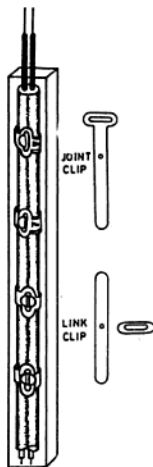

Fig. 10.5 C.T.S. wiring
in the walls at the distance not less than 60 cm (2') or 75 cm (2.5') maximum (shown in Fig. 10.5).
T.R.S. cables are fixed on well-seasoned, perfectly straight and well-varnished wooden battens by means of joint clips as explained in lead sheathed wiring system, not less than 10 mm in thickness (10 to 19 mm usually) and the width of which is such as to fit the total width of the cables laid on the batten (10 to 50 mm) as shown in Fig 10.5. Wooden plugs used for fixing the batten should be fixed at a minimum interval of 60 cm (2') apart or 75 cm (2½') apart maximum. The wiring should not be given any right-angle bend. For this purpose, it should be rounded off at the corner to a radius not less than six times than the overall diameter of the cable. It is preferred to pass the wire through the conduit pipe when passing through the walls, ceiling or floor. For this purpose wooden or porcelain bushes should be provided on both sides of the conduit. In no condition the